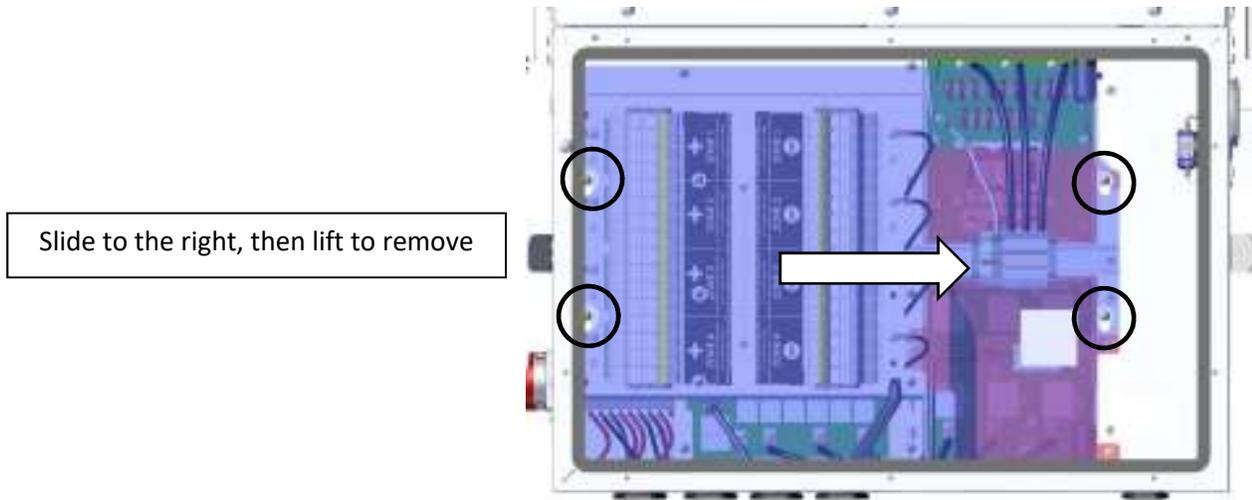

Figure 3-16 Wiring Box with Cover Removed
Remove the DC plastic shield, by loosening four (4) screws with a #2 Phillips-head screwdriver as shown in Figure 3-16. *The screws do not need to be completely removed.* Slide the plastic cover to the right and remove, set aside in a safe place for reinstallation. Figure 3-16 shows the wiring box with plastic shield highlighted.